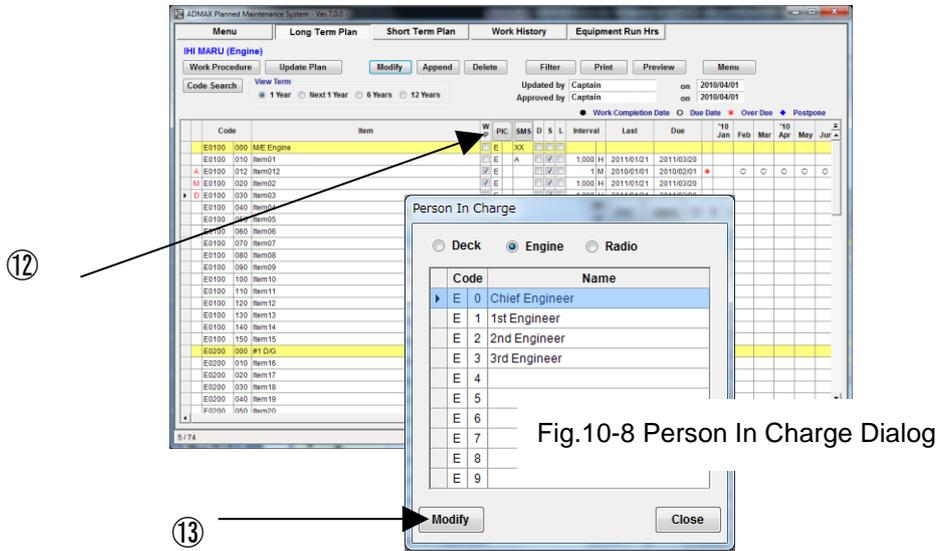

Fig.10-7 Original Plan Screen
(12) If you select [PIC], "Person In Charge Dialog (Fig.10-7) is displayed.
(13) On the "Original Plan screen" (Fig.10-7) or